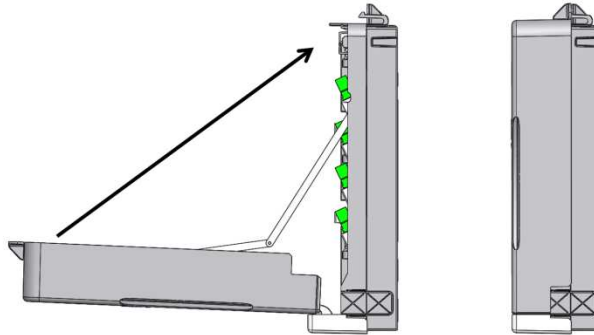

Figure 42
1.11.1 To close the box, lift the lid and lock the plastic cover in place (Fig.42);